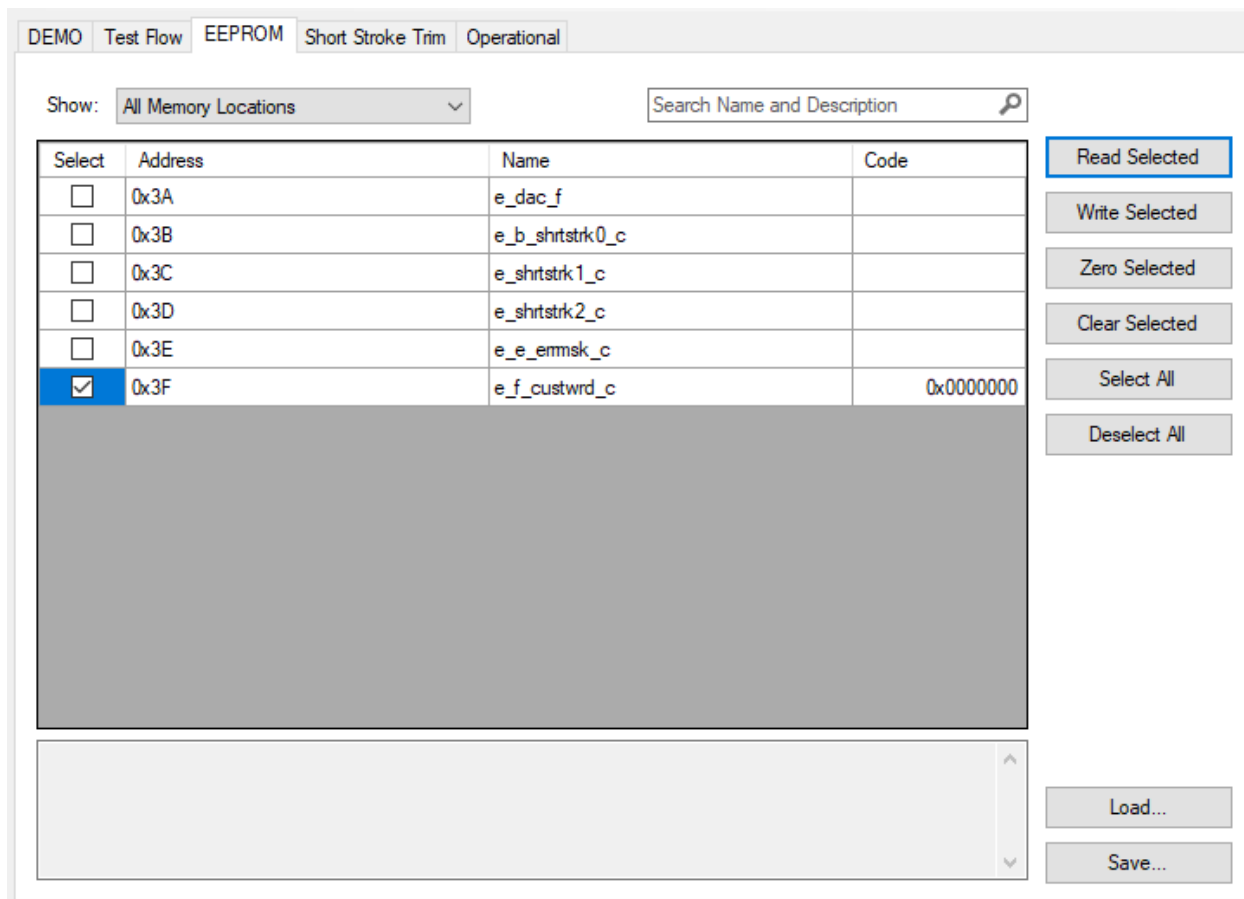

Figure 16: Reading a Memory Location
4. Click **Read Selected**. The window should appear as it does in Figure 16.